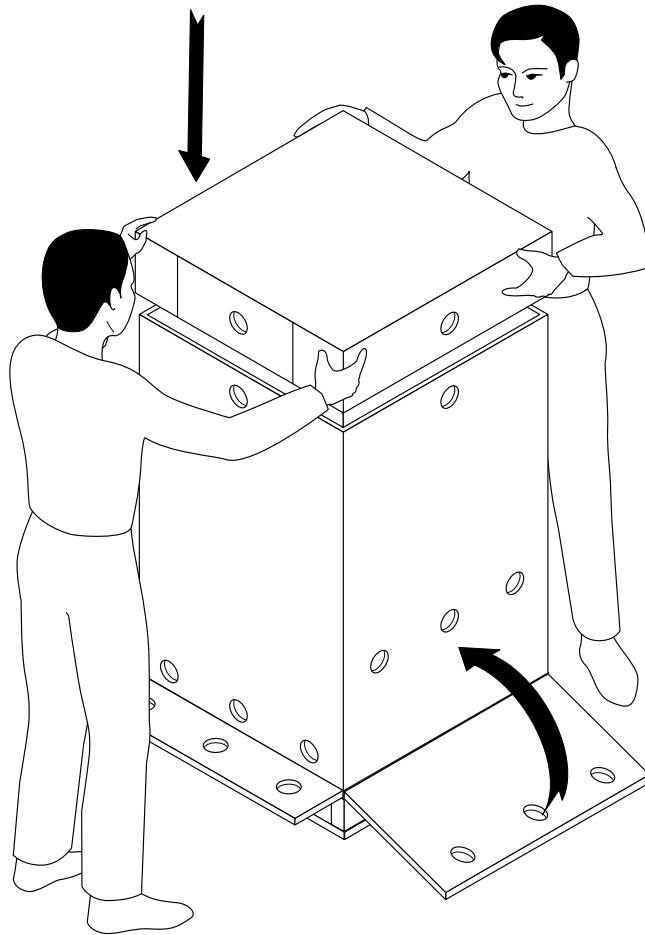

Figure A-19 Replace Lid
10. Replace the lid and raise the ramp, as shown in Figure A-19.